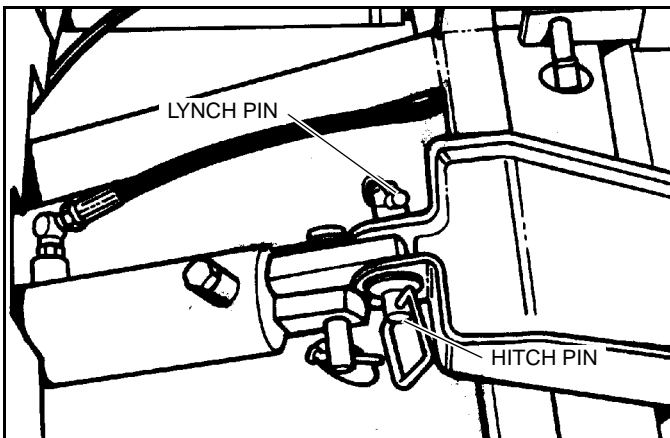

Figure 1-5
- Remove Lynch Pin from center Pivot Hitch Pin and pull Pivot Hitch Pin from the center pivot. See Figure 1-5.